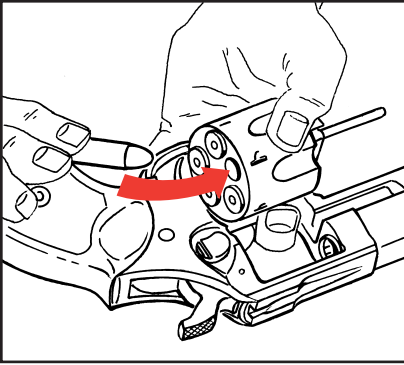

FIGURE 3
1. Press the crane latch and guide cylinder out of frame to the left to its loading position (See Figure 3, below).